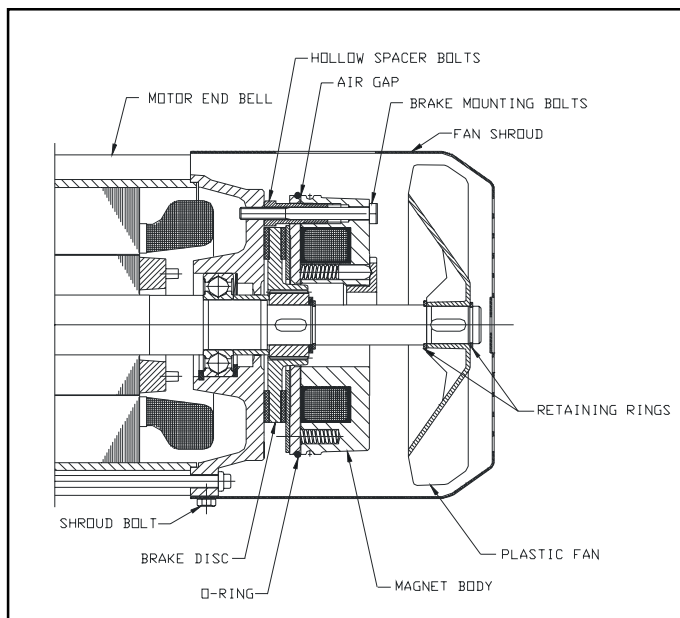

Figure 5-8. Motor Brake
- (3) Remove the four (4) bolts attaching the fan shroud to the motor and remove the fan shroud. See Figure 5-8.
- (4) Carefully roll the large O-ring from the groove over the air gap back toward the magnet body. Do not excessively stretch this O-ring.
- (5) Measure the air gap using feeler gages. If the air gap exceeds the maximum value shown in Table 5-1, the air gap must be reset.
- (1) Lower hook block to the floor and relieve all load from ropes.
- (2) Make sure power to the hoist is off and locked out.
- (4) Remove the snap ring behind the plastic fan. Carefully remove the fan and key from the motor shaft. Remove the snap ring in front of where the fan was mounted.
- (5) Disconnect the two wires from the terminal block on the magnetic body.
- (6) Remove the three mounting bolts that attach the brake body to the motor end bell and remove the brake body from the motor. Remove the friction disk from the motor shaft.
- (7) Clean and inspect all components and working surfaces. Replace all damaged or worn components as necessary. Measure friction disk thickness and replace if less than the minimum thickness shown in Table 5-1.